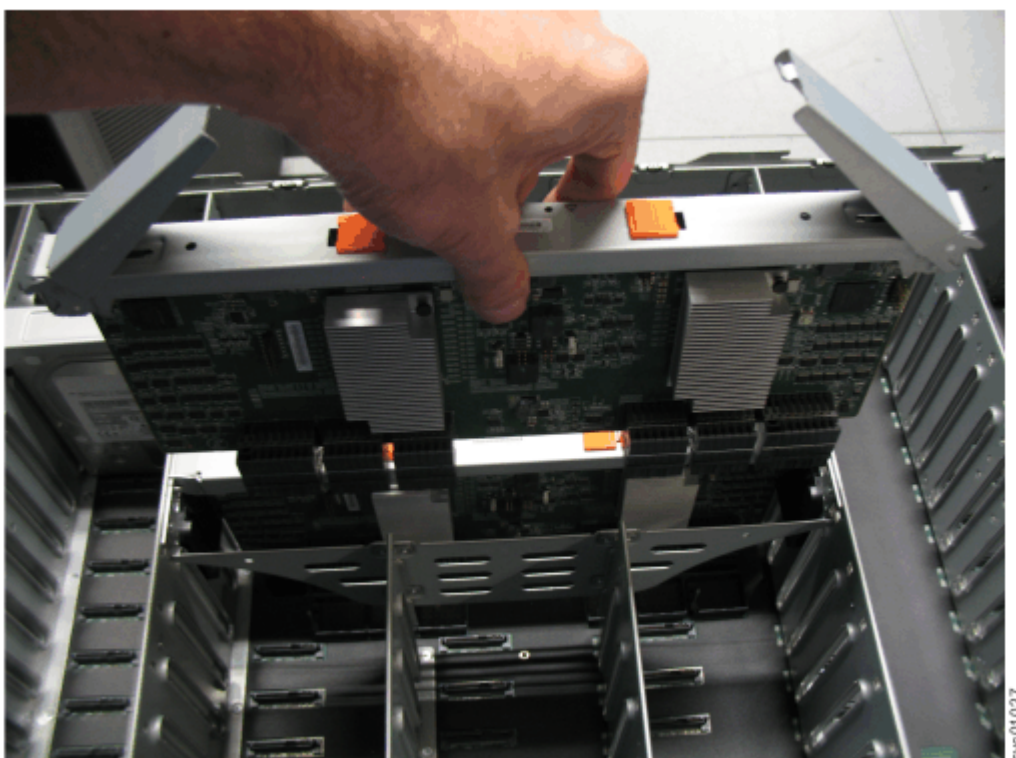

Figure 159. Remove the secondary expander module
4. Lift the secondary expander module carefully out of the enclosure, as shown in Figure 159 on page 191.